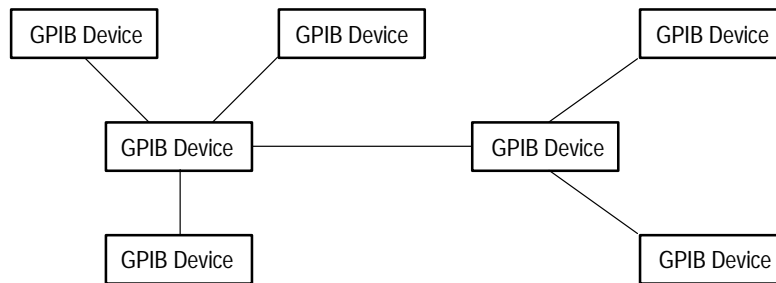

Figure 9: Typical GPIB Network Configuration
- Connect the devices on the network in a star or linear configuration as shown in Figure 9. Do not use loop or parallel configurations.